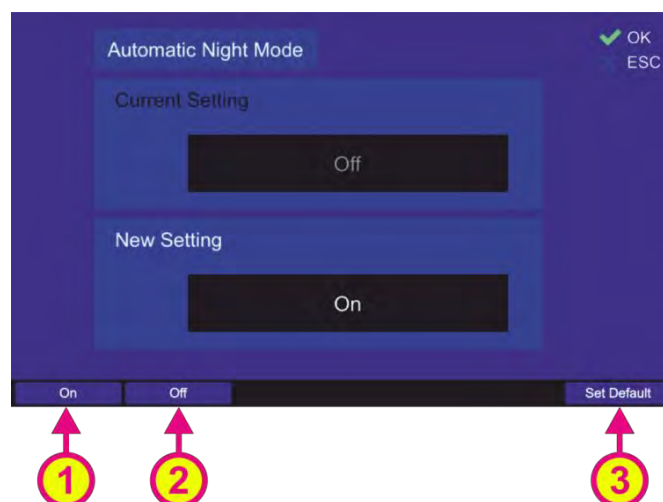

Fig. 103 Turning on/off the automatic activation of night mode
Following dialog appears (s. Fig. 103).
- Press the hotkey “On” (s. Fig. 103, position 1) in order to enable the automatic night mode activation (at the ambient brightness level adjusted in the “Activation Threshold” setting).